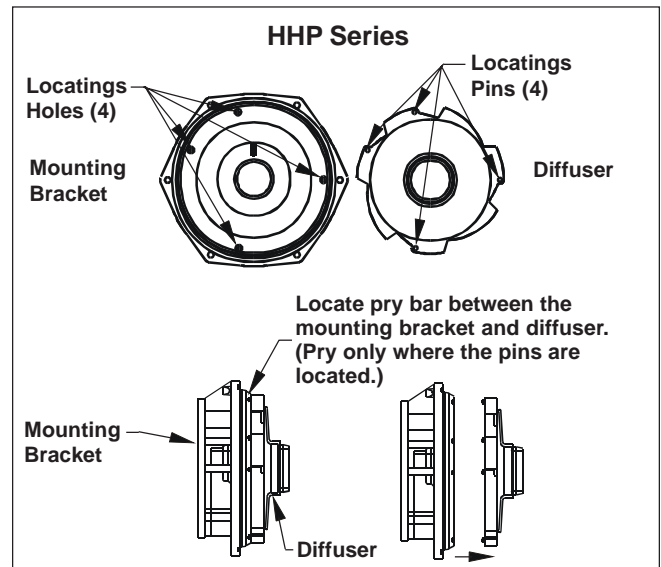

Figure 2. Removing the Diffuser HHP Series
6. Using a No. 2 Phillips screwdriver, remove the four (4) screws holding the diffuser (the cover over the impeller) (See Fig.2).
4. Replace the diffuser on the mounting bracket assembly by snapping it into the screw holes. It will only fit one way (See Fig. 2).